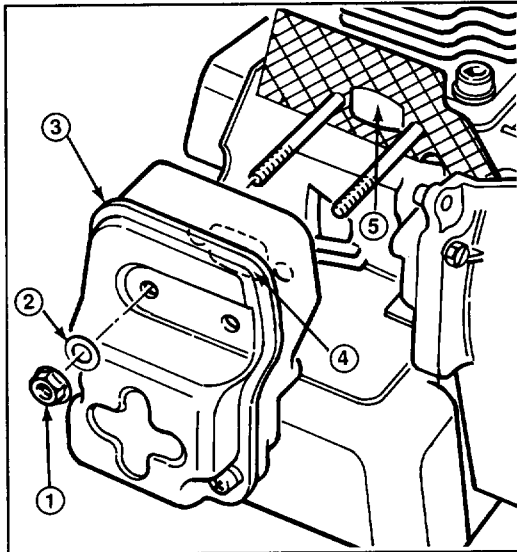

Figure 14
2. Remove two (2) nuts and (2) washers securing muffler to engine (Fig. 14).
3. Clean any carbon build-up from muffler port (Fig. 14).
4. Pull recoil starter slowly to rotate the engine crankshaft until the piston totally covers the exhaust port (Fig. 14). Clean the exhaust port area by using a clean, flat piece of hard wood. Remove all loose particles.